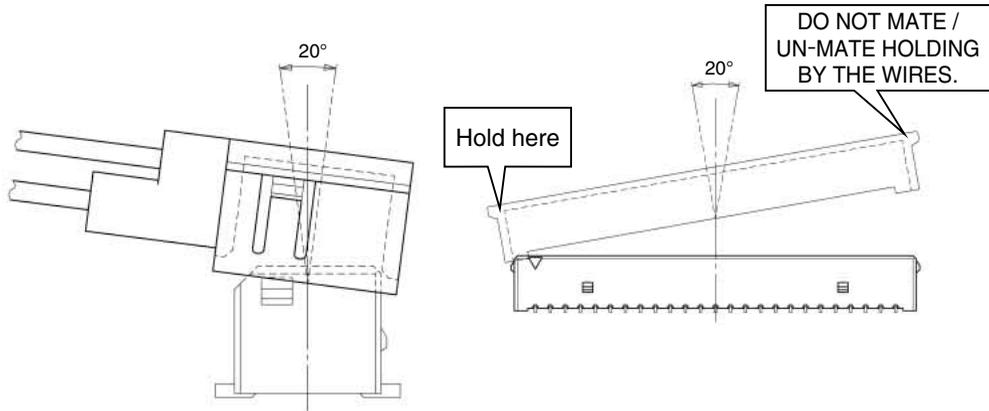

Fig. 2. Mating / Un-mating
* Hold the socket at both ends (as illustrated on Fig.2) when mating or un-mating. The mating/un-mating of the connectors must be within the indicated angle of 20° on both axis.